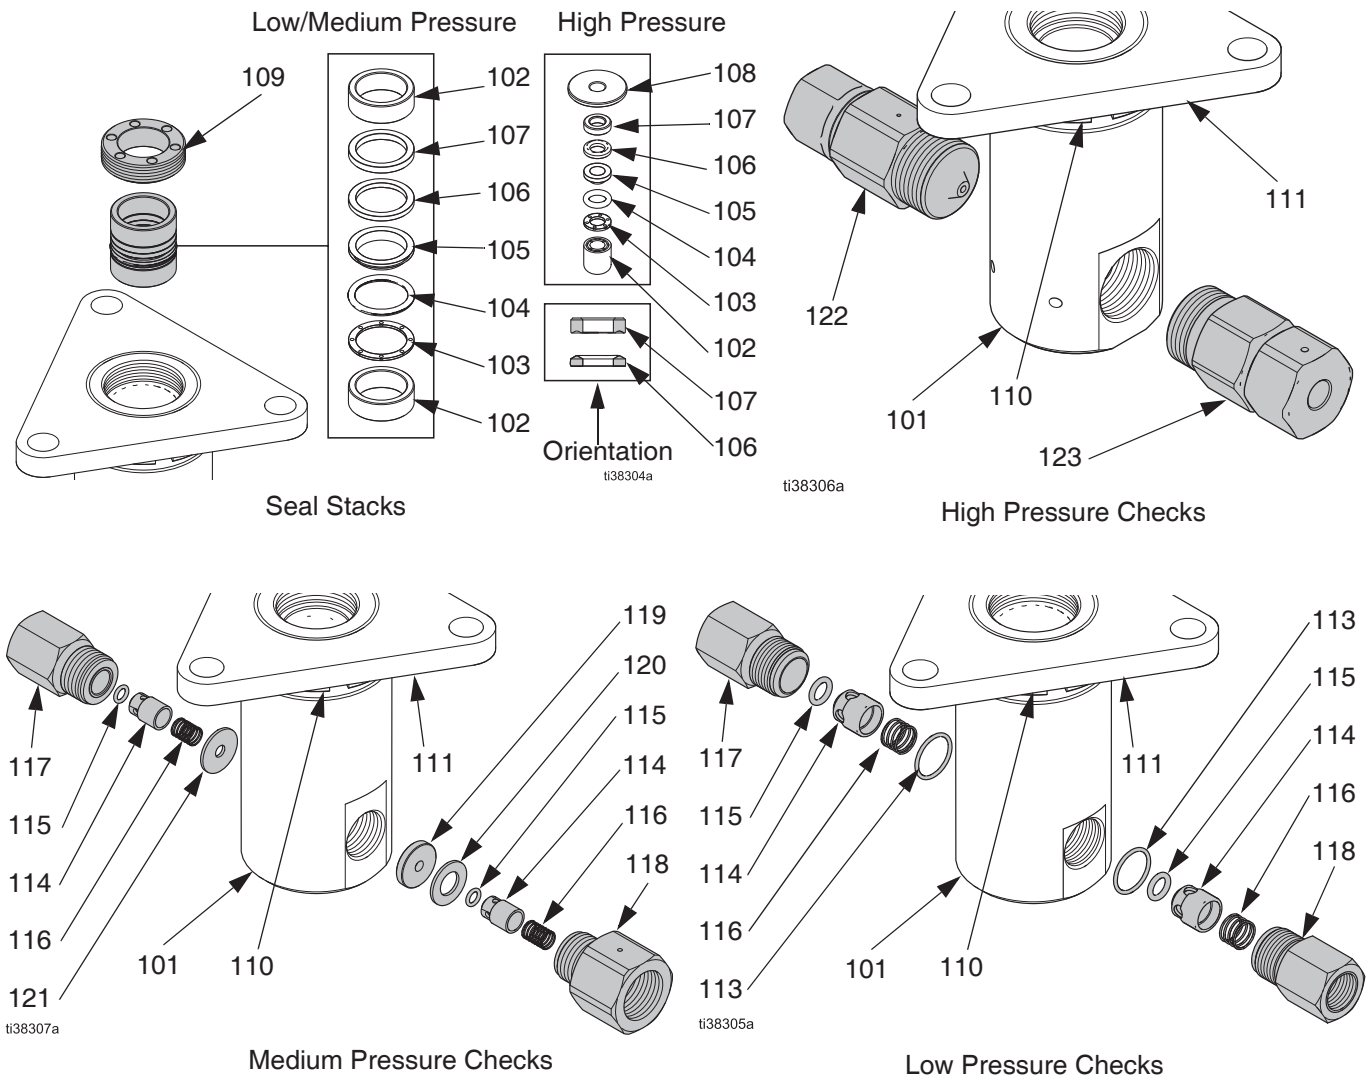

FIG. 3
1. Remove the packing nut (109) from the top of the fluid cylinder (101). Do not remove either the lower bracket (111) or locking ring (110).
4. **Medium-pressure pumps only.** Remove the o-rings (115), compression springs (116), and check poppets (114).
5. **Low-pressure pumps only.** Remove the o-rings (113 and 115), compression springs (116), and check poppets (114). Inspect for damage and wear, and replace as necessary.
NOTE: Assuming the orientation shown in FIG. 3, and with the point of lower bracket (111) pointing to the front of the pump when installed, the inlet port will be to the left and the outlet port to the right.
6. **Low- and medium-pressure pumps only.** Apply lubricant to the small o-ring (115) before installing onto the check poppet (114), then install the poppet (114) and compression spring (116) into the inlet check housing (117), as shown.
7. **Low-pressure pumps only.** Apply lubricant to the large o-ring (113) before installing into the inlet port of the fluid cylinder (101), then apply anti-seize to the threads of the inlet check housing (117) before installing.
8. **Medium-pressure pumps only.** Install the spacer (121) into the inlet port of the fluid cylinder (101), then apply anti-seize to the threads of the inlet check housing (117) before installing.
9. **Low- and medium-pressure pumps only.** Apply lubricant to the small o-ring (115) before installing onto the check poppet (114), then install the poppet (114) and compression spring (116) into the outlet check housing (118), as shown.
10. **Low-pressure pumps only.** Apply lubricant to the large o-ring (113) before installing into the outlet port of the fluid cylinder (101), then apply anti-seize to the threads of the outlet check housing (118) before installing.
11. **Medium-pressure pumps only.** Install the spacers (119 and 121) into the outlet port of the fluid cylinder (101), then apply anti-seize to the threads of the outlet check housing (118) before installing.
12. **High-pressure pumps only.** Apply anti-seize to the threads of the inlet (122) and outlet (123) check housings before installing.
14. Install the packing nut (109) with a medium strength thread locking compound, and torque to 5-10 ft-lbs (7-14 n•m). The packing nut (109) should be flush with the surface of the fluid cylinder (101).